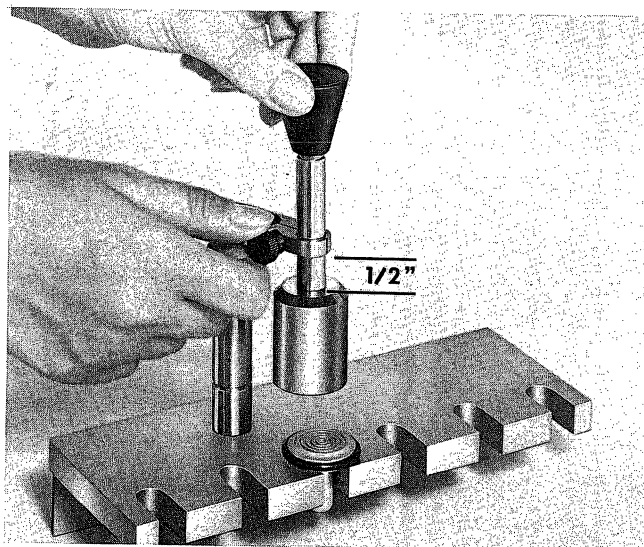

Figure 13
1. Loosen the set screw knob on the side of the extractor as shown in Figure 13.